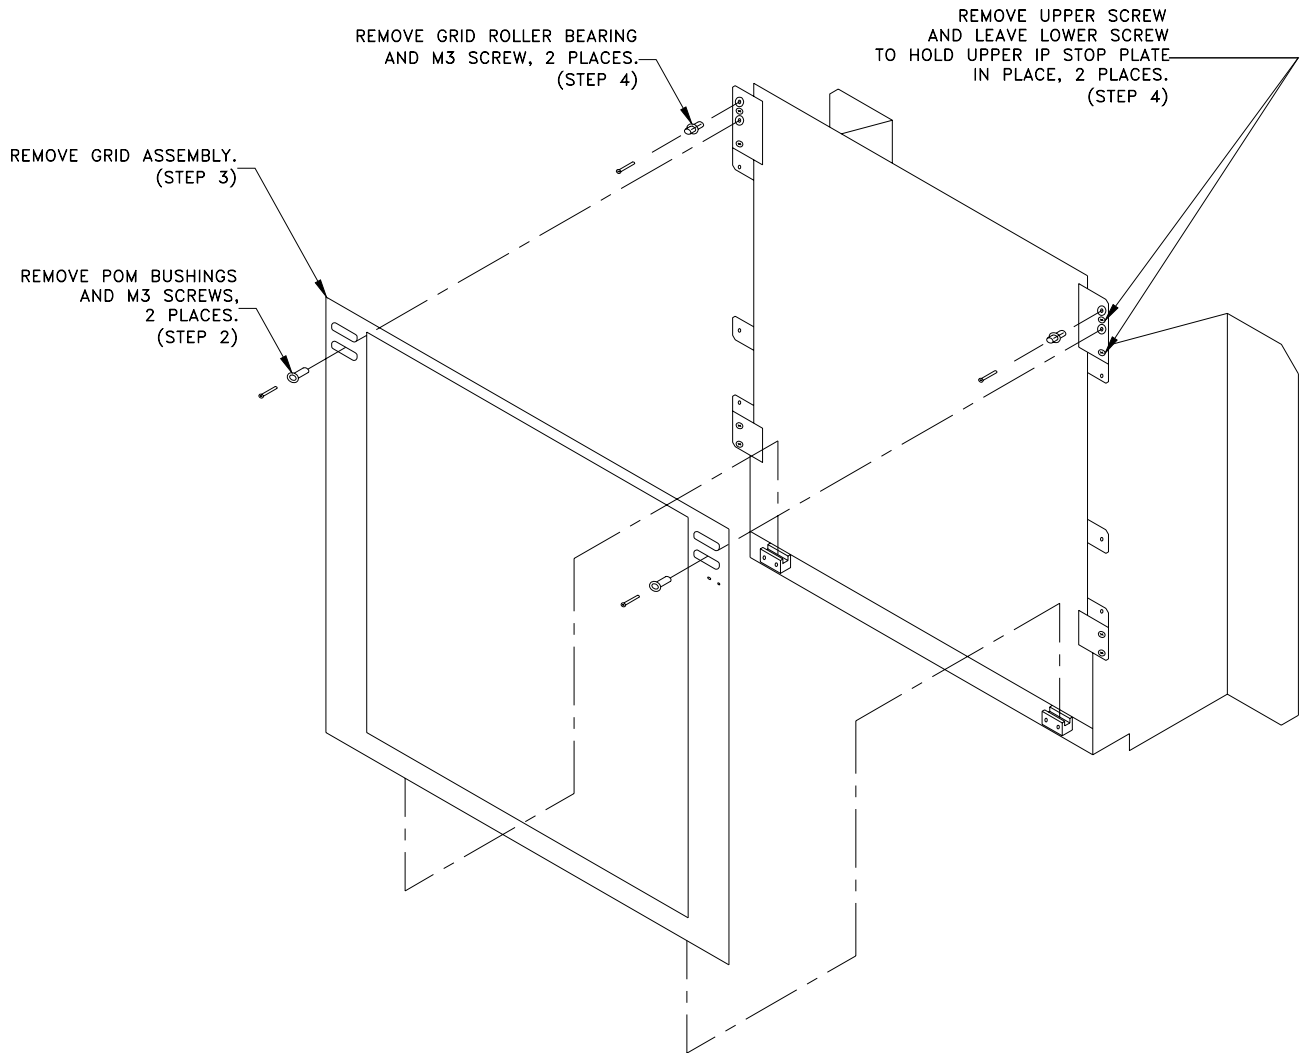

Figure 2
5. Reinstall each of the grid roller bearings on top of one of the grid mounting spacer plates, provided, using the roller bearing to hold the spacer plate in place. See Figure 2.
6. Remove the lower screws which mount the upper IP positioning unit stop plates, leaving the roller bearings and spacer plates to hold the stop plates in position. Retain these screws, they will be used to mount the ion chamber. See Figure 2.
7. Remove the grid sensor flag from the grid assembly. Replace the two (2) existing grid sensor flag mounting screws with the two (2) M3 X 6 pan head screws, provided. Remount the grid sensor flag to the grid assembly with the grid sensor flag spacer beneath it. See Figure 2.
8. Remove the two (2) POM guides. Replace the four (4) existing M4 x 12 flat head screws with the four M4 X 16 flat head screws provided. Mount each of the two (2) grid guide spacer plates, provided, under the POM guides as shown using two (2) of the M4 x 16 phillips flat head screws. See Figure 2.
9. Remove the upper screw from each of the lower IP positioning unit stop plates, leaving the lower screw to hold each stop plate in place. See Figure 2.